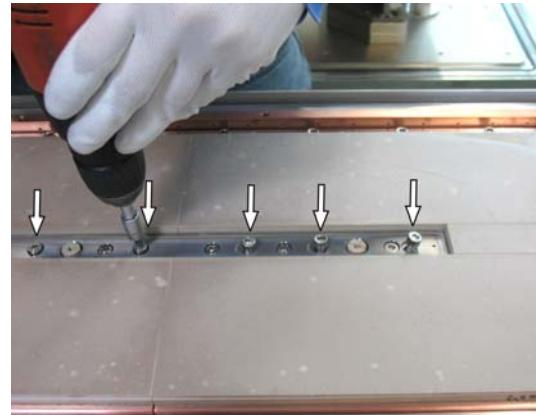

Fig. 7-12 Removing the inner clamping ledge
- 7.2 Remove those hexagon socket screws from the inner clamping ledge, where the screw heads are slightly protruding, (see arrows in Fig. 7-12, 213).